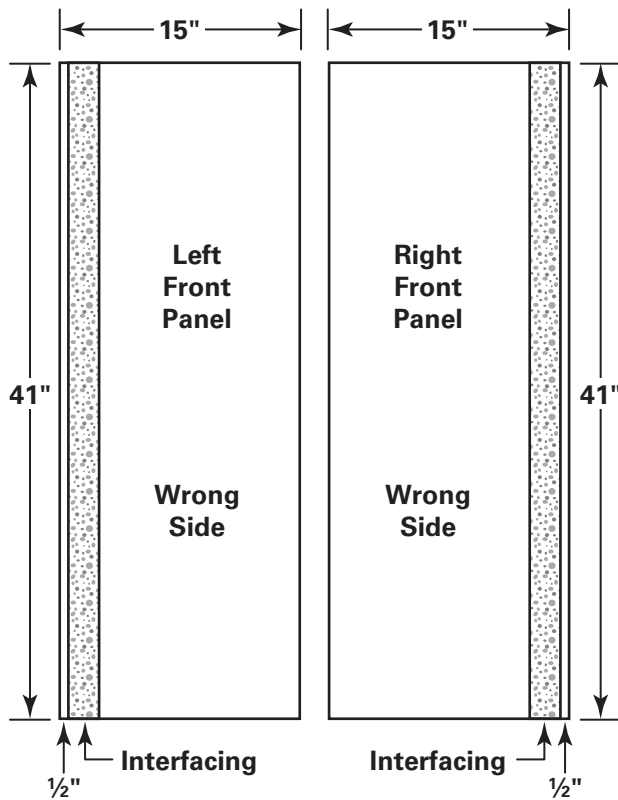

Fig. 21-2
4. Fuse a 41-inch (104-cm) long interfacing strip to the wrong side of each outer-bag front panel, positioning the interfacing ½ inch (1.3 cm) from the panel outside edge. (Fig. 21-2)